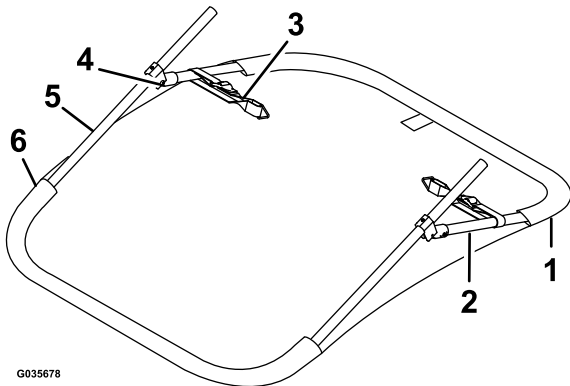

Figure 4
3. Slide the front bow through the front pocket of the canvas with the fittings pointing downward as shown in Figure 4.